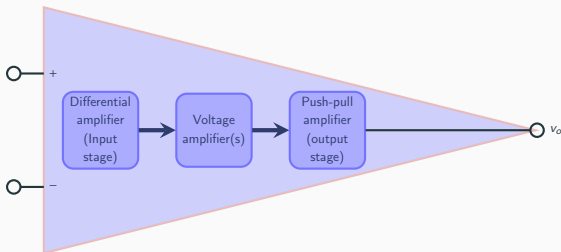

Figure 1: Basic building block of the Op-Amp
- Figure 1 depicts the basic internal arrangement of an Op-Amp, an in-depth discussion of its internal circuit elements falls outside the scope of this class.